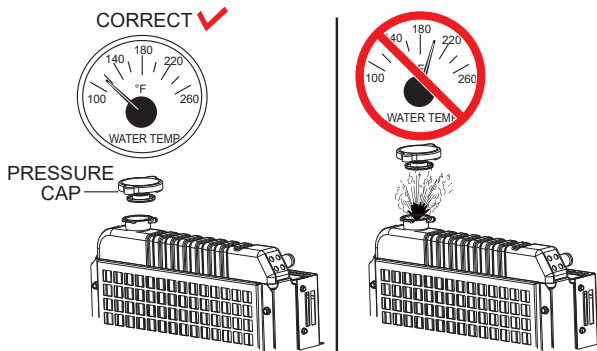

Figure 58. Radiator Pressure Cap Removal
1. Remove the **radiator pressure cap** (Figure 58) only when the coolant temperature is below 120°F (50°C).